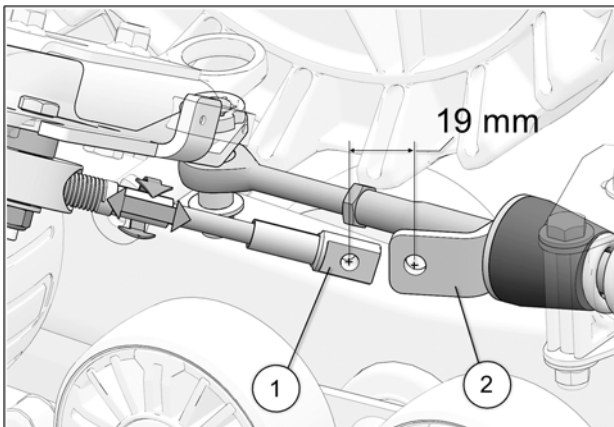

Fig. 27
15. Turn the handlebars to its maximum point of travel on the left. While maintaining pressure on the handlebars, turn threaded rod to adjust length of cable. See Fig. 27
16. Position cable end hole (1), 19 mm [$\frac{3}{4}$ in.] short of support plate (2) mounting hole. See Fig. 27